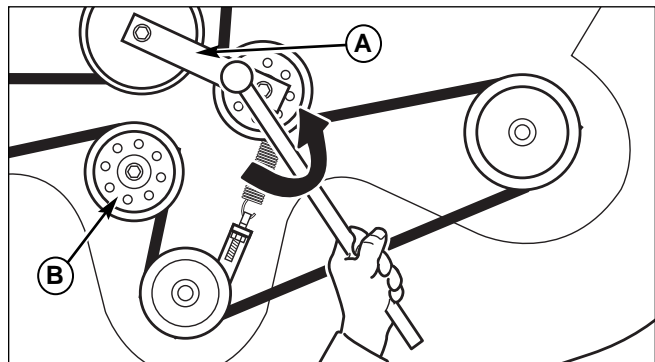

Figure 18. Release Belt Tension
4. Using a 1/2" breaker bar, place the square end in the square hole located in the idler arm (A, Figure 18). Carefully rotate the breaker bar COUNTER-CLOCKWISE, which will relieve the tension on the belt exerted from the idler arm. Slide the belt off of the stationary idler pulley (B).
9. Install the belt on the PTO pulley, the spindle pulleys and all the idler pulleys except the stationary idler pulley (B, Figure 18). Carefully rotate the breaker bar COUNTER-CLOCKWISE and install the belt on the stationary idler pulley. Carefully release the tension on the breaker bar.